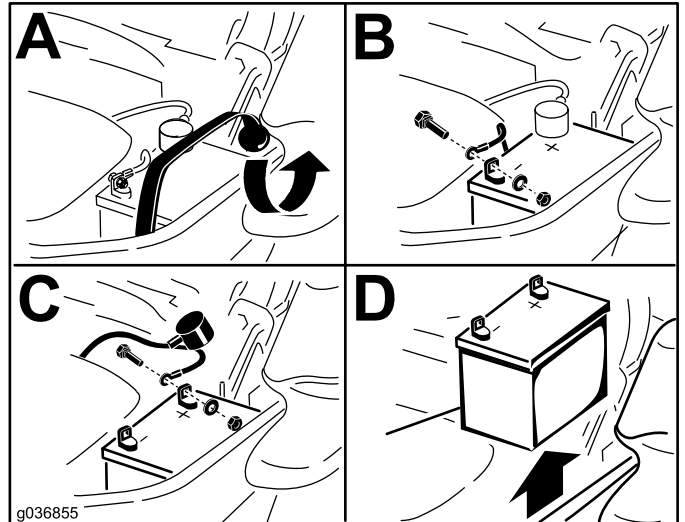

Figure 74
3. Disconnect the negative battery cable (black) from the negative (-) battery terminal (Figure 74).
4. Slide the red terminal boot off the positive (red) battery terminal, and remove the positive (+) battery cable (Figure 74).
5. Remove the rubber strap (Figure 74).
1. Position the battery in the tray with the terminal posts opposite from the hydraulic tank (Figure 74).
4. Secure the cables with 2 bolts, 2 washers, and 2 locknuts (Figure 74).
6. Secure the battery with the rubber strap (Figure 74).